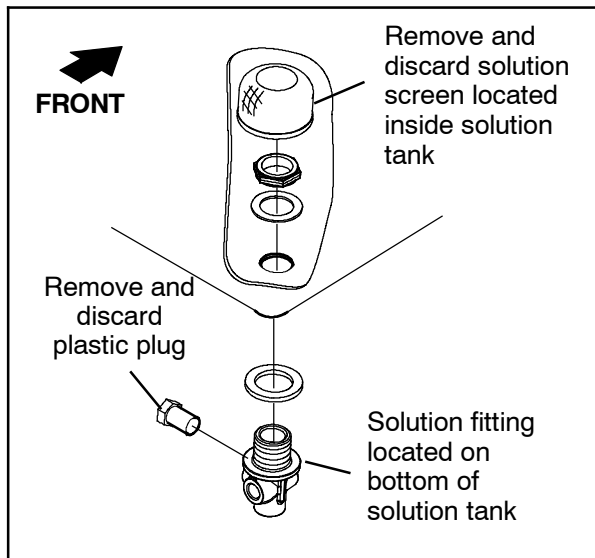

FIG. 14
- Remove filter screen located inside the solution tank from the solution fitting. Discard the filter screen. (Fig. 14)
- Remove the solution fitting from the bottom of the solution tank. (Fig. 14)
- Remove the plastic plug from the solution fitting. Discard the plastic plug. (Fig. 14)